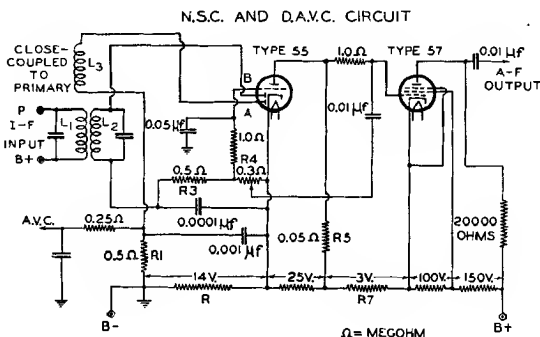

Fig. 27
Fig. 27 shows a circuit employing the 55 and 57 arranged to take advantage of the combined features of diode detection, d.a.v.c., and n.s.c. The diodes, A and B, of the 55 are employed to secure these effects. Diode A is the d.a.v.c. unit; diode B is the detector. The triode is the n.s.c. unit. When a carrier signal is applied across the input transformer, plate current flows from diode A through R and R_1 back to A. The bleeder resistor (R) provides a negative bias of 14 volts to A in order to obtain delayed a.v.c. A.v.c. voltage is obtained across R_1 when the peak signal is slightly greater than 14 volts. At the same time, B also passes plate current which causes a drop through the diode-load resistors (R_3 and R_4) to provide negative d-c bias for the 55 triode and a-f
To obtain this, the a.v.c. tube and the n.s.c. tube must be controlled by signal voltages obtained from separate inputs, and for a small amount of detuning, the signal actuating the n.s.c. tube must be reduced more sharply than that supplying the a.v.c. tube. One convenient method is shown in Fig. 27. The overall selectivity at the secondary (L_2) of the input transformer is greater than at the secondary (L_3), so that during the detuning process the signal on diode B is reduced to a greater extent than the signal on diode A. The selectivity of the secondary (L_3) is less than that of L_2 because L_3 is more closely coupled to the primary (L_1). This arrangement can be utilized to provide the desired suppression appreciably before the a.v.c. action increases the receiver sensitivity to maximum.